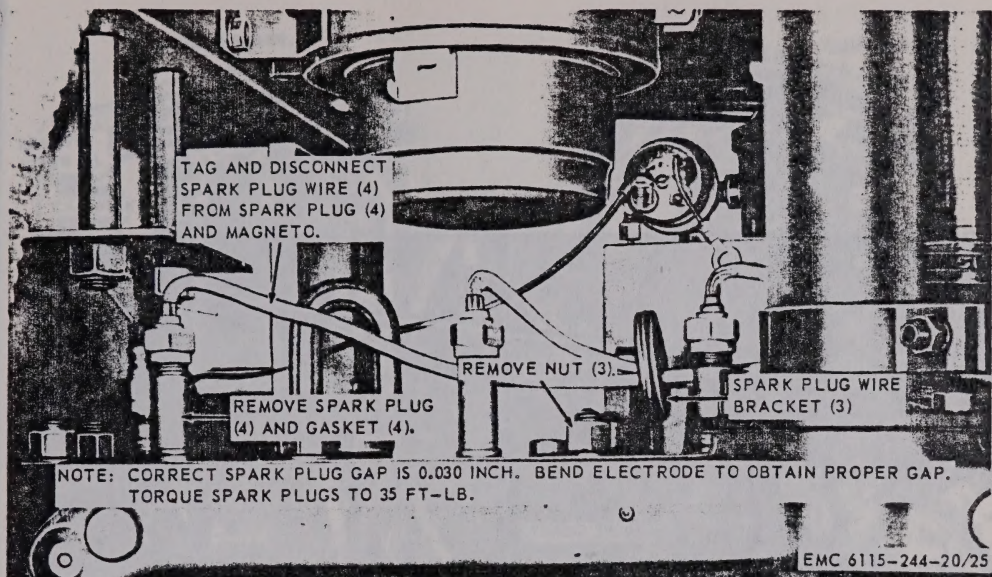

Figure 25. Spark plugs, spark plug wires, and spark plug wire brackets, removal and installation.
a. Removal. Refer to figure 25 and remove the spark plugs, spark plug wires, and spark plug wire brackets from the engine.
- (1) Clean the spark plugs, spark plug
- (2) Inspect for damage and defects. Replace all parts that are damaged or defective.
c. Installation. Refer to figure 25 and install the spark plugs, spark plug wires, and spark plug wire bracket on the engine.